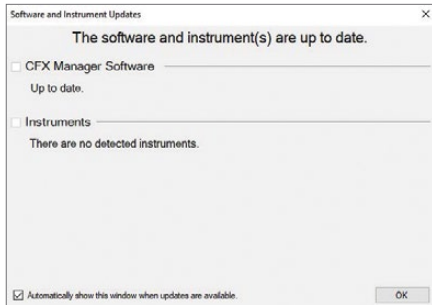

Fig. 9. Update dialog box.
2. If an update is available, a dialog box will prompt you to update the software and instrument. Click **Update** (Figure 9).